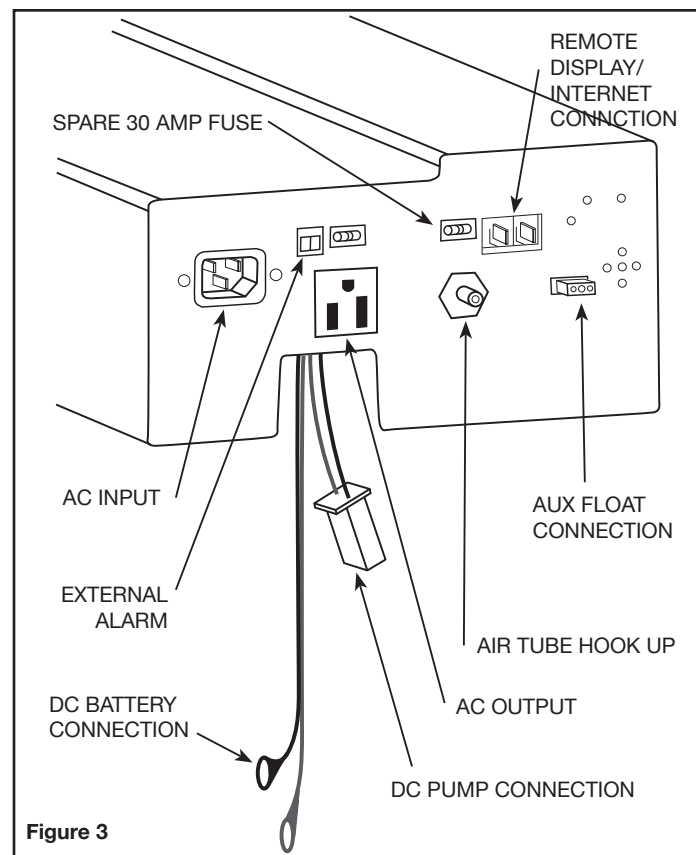

Figure 3
2. Connect battery wires to battery, red wire to battery (+), black wire to battery (-). (See Figure 3).
3. Plug DC pump connector into DC outlet (as shown in Figure 3), ensure that the latches are engaged. DC connection is under the lid.
5. Plug AC pump into battery lid AC output (as shown in Figure 3), ensure plug fully engaged.
6. Plug in AC line cord into AC input socket (as shown in Figure 3). Be sure to connect fully.
7. Plug remote display modular plug into either receptacle (as shown in Figure 3), the remote display will momentarily turn on all the LEDs, then to the default state with the AC Power Loss LED (red) flashing.
8. Connect the auxiliary float switch cord into auxiliary float connection (as shown in Figure 3).
10. Connect Security System wires to external alarm connector (as shown in Figure 3) if desired.